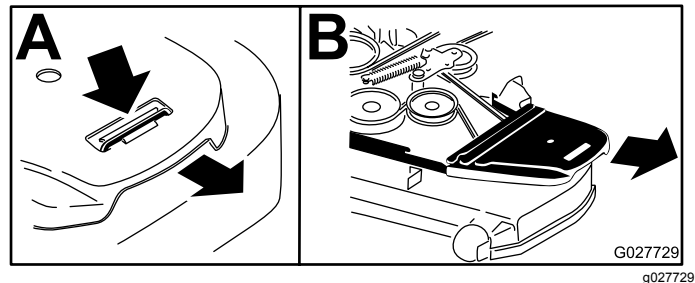

Figure 79
4. Remove the belt covers (Figure 79).